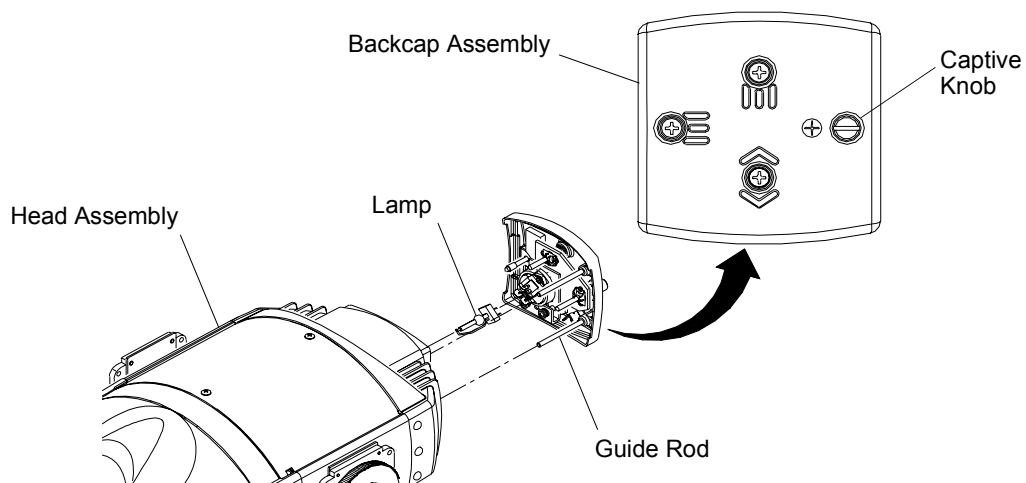

Figure 2-3: Lamp Replacement
Step 2. At backcap, using screwdriver or fingers, turn captive knob until loose (**Figure 2-3**).